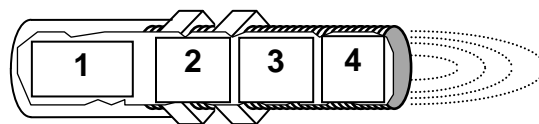

Figure 1: Composition of proximity sensor
- (b) Give **three (3)** benefits of using Automation. (3 marks)
- (c) There are **three (3)** basic elements in automation system. List and briefly explain these elements. (3 marks)
- (d) Define sensor and give **two (2)** examples of sensor. (4 marks)
- (e) List **two (2)** advantages and **two (2)** disadvantages of limit switch. (4 marks)
- (f) **Figure 1** shows the composition of proximity sensor.